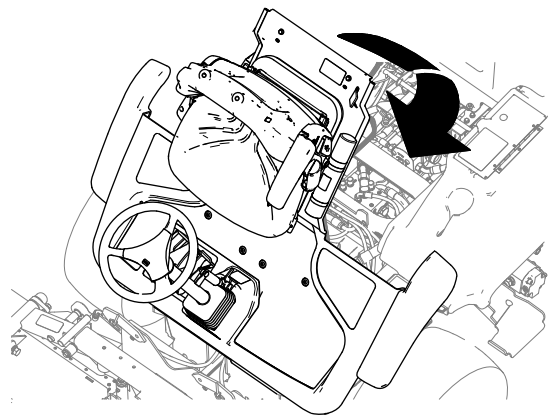

Figure 42
1. Lower the platform carefully (Figure 42).